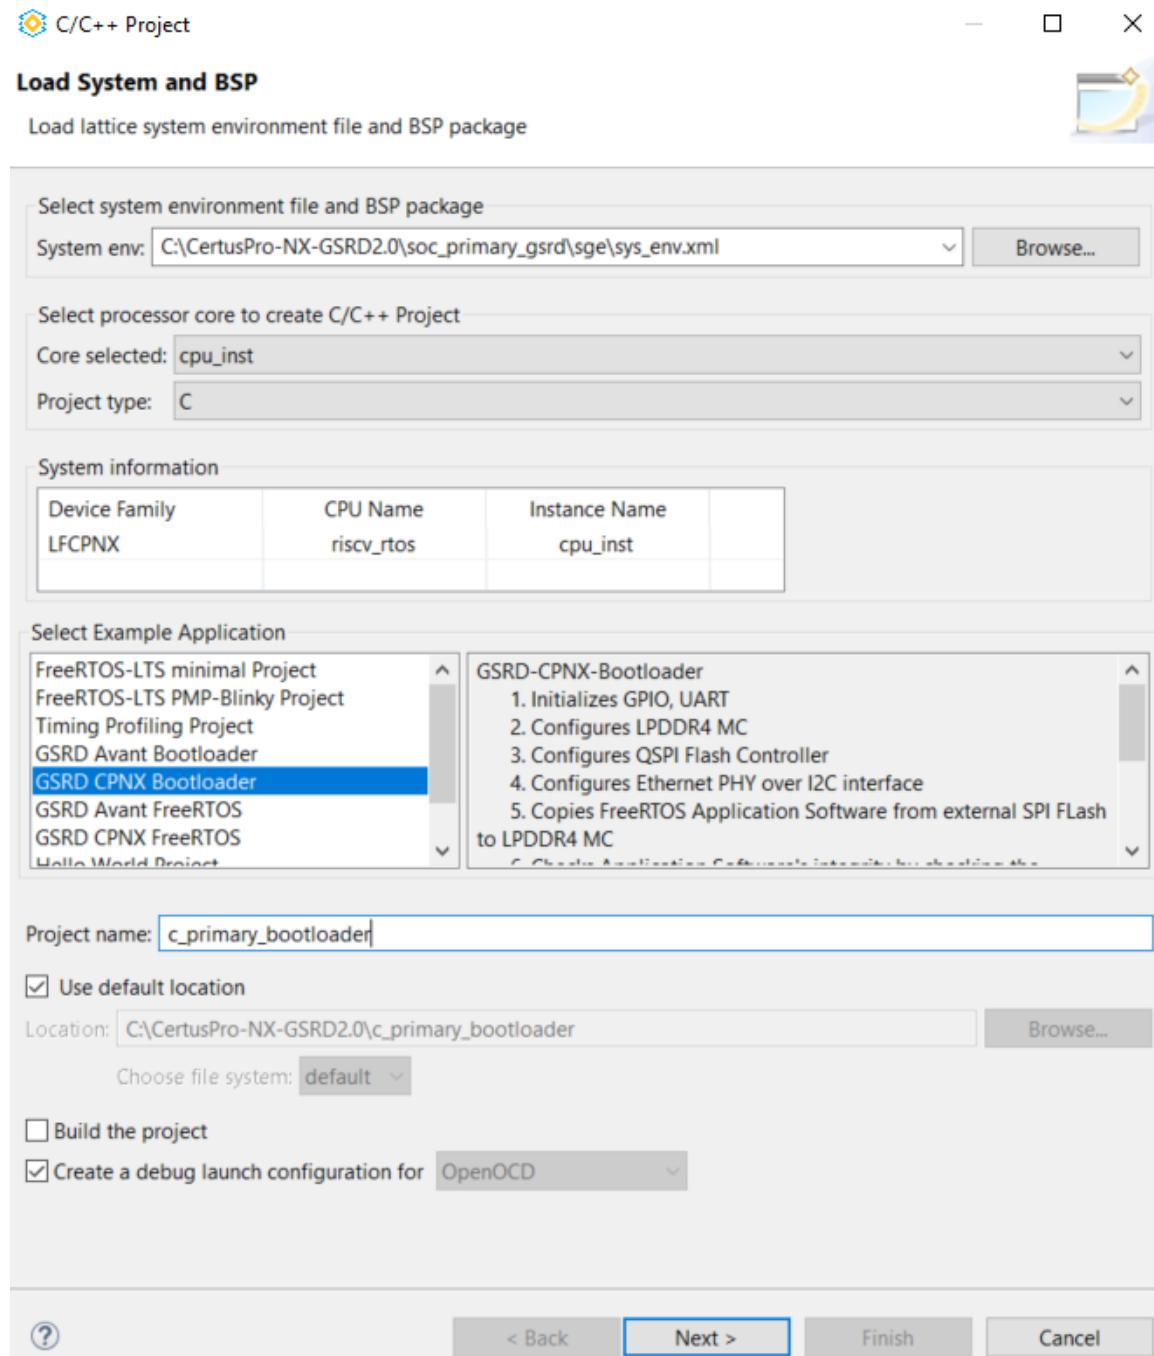

Figure 8.12. Bootloader C/C++ Selection
13. In C/C++ Project window, it automatically selects the generated `sys_env.xml` file. In the *Select Example Application* section, select the **GSRD CPNX Bootloader** and provide a name for the bootloader as shown in Figure 8.12.